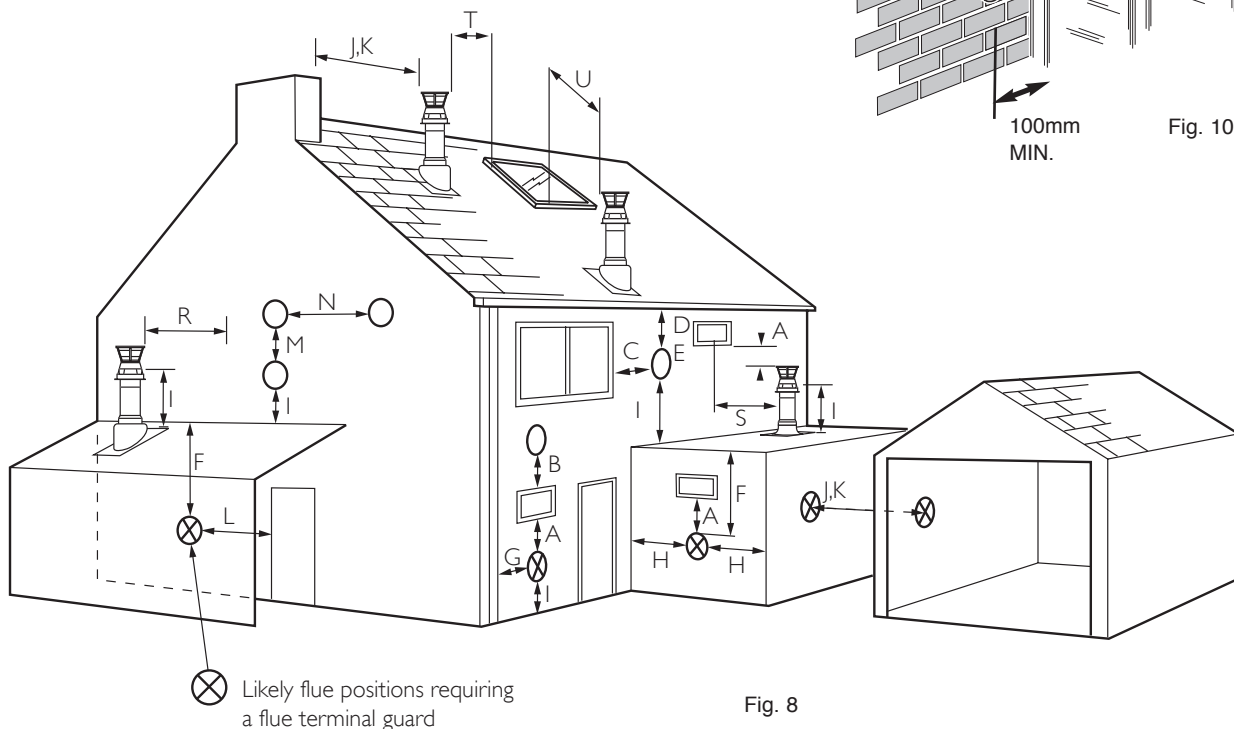

Fig. 8
**Terminal Position with Minimum Distance (Fig. 8) (mm)**